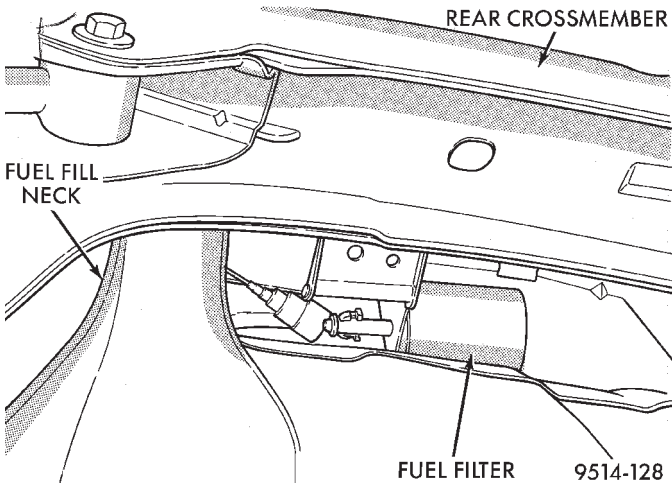

Fig. 16 Fuel Filter
- (7) Disconnect fuel supply line from the fuel brake module.
- (8) Remove fuel filter (Fig. 16).